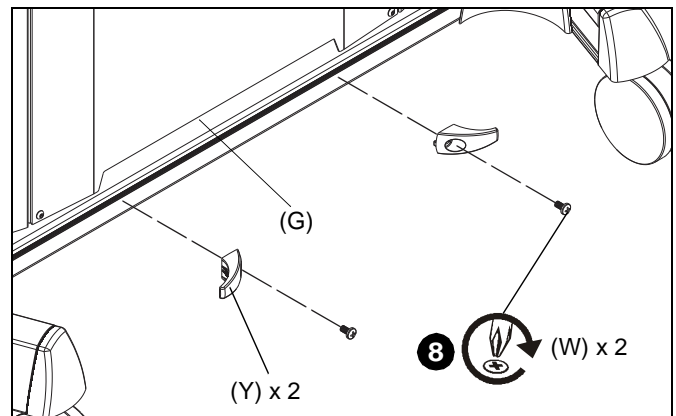

Figure 18
8. Use two 1/4-20 x 1/2" Phillips pan machine screws (W) to attach two cable hooks (Y) to bottom of column assembly (G). (See Figure 18)